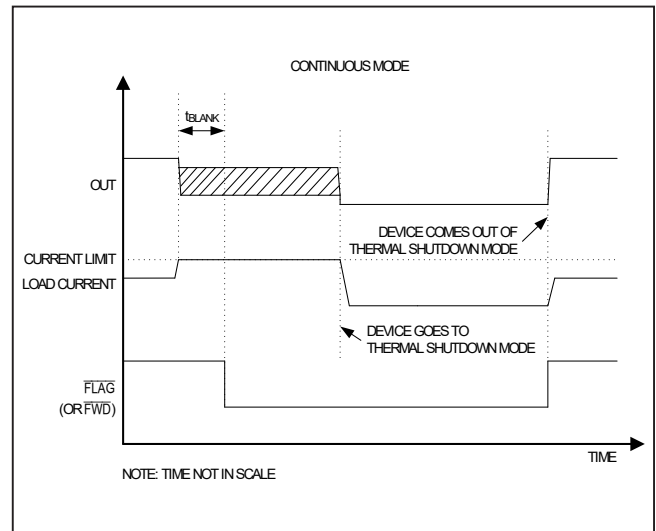
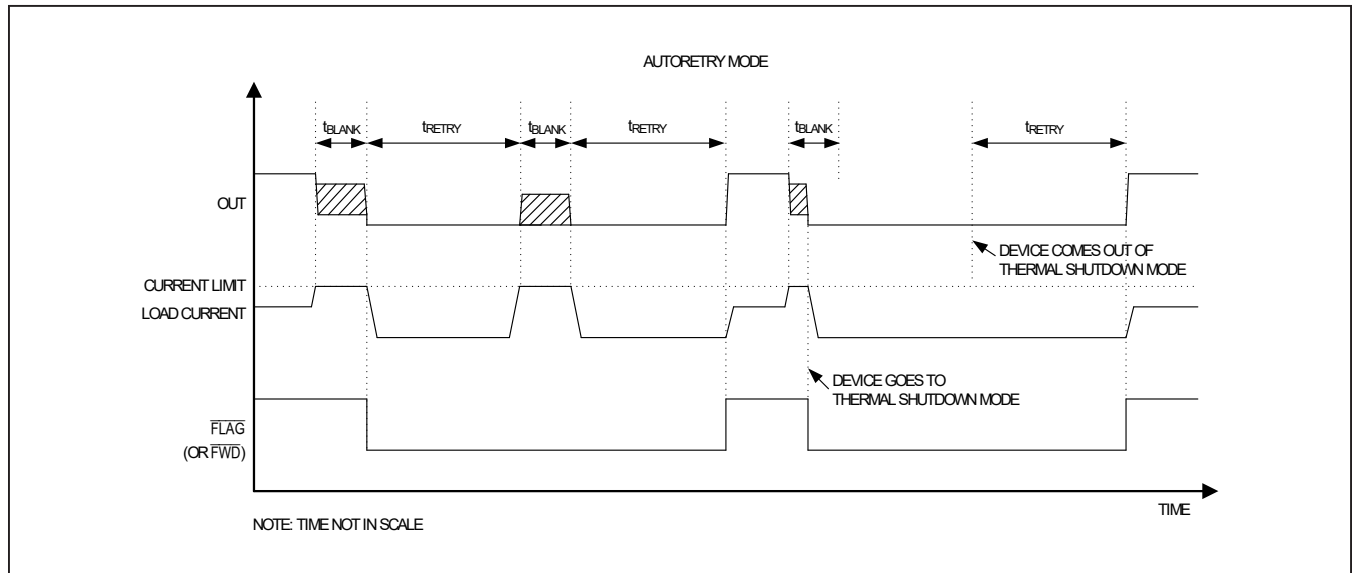
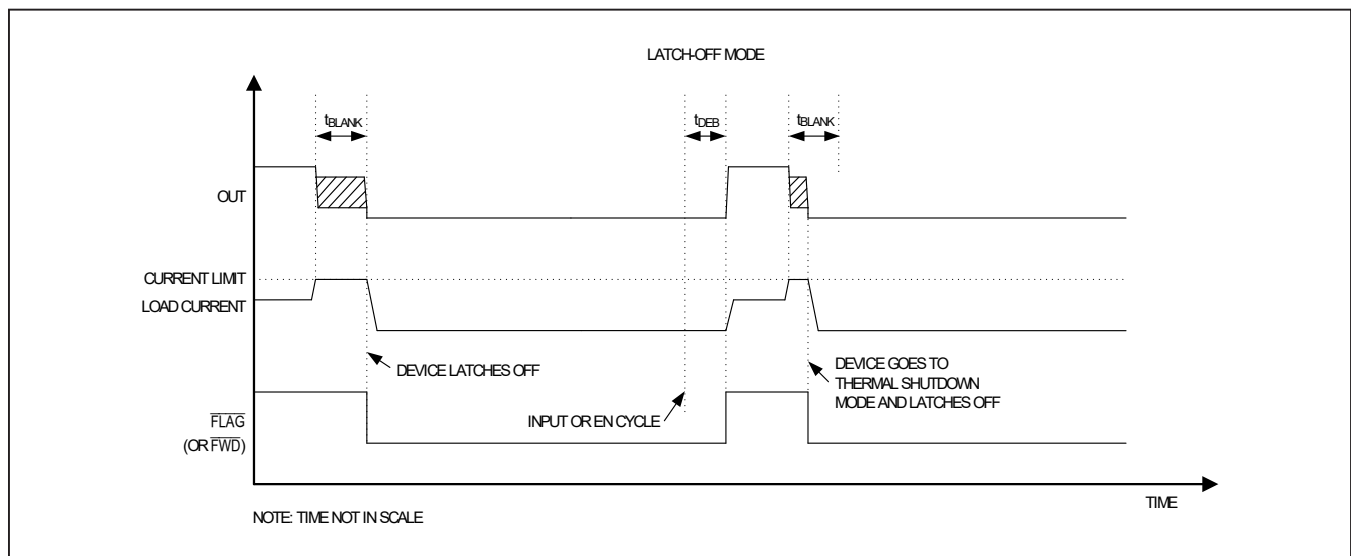

Figure 4. Continuous Fault-Timing Diagram
Figure 3. Autoretry Fault-Timing Diagram
Figure 5. Latch-Off Fault-Timing Diagram
With a 40ms (typ) t_{BLANK} and 600ms (typ) t_{RETRY} , the duty cycle is 6.25%, resulting in a 93.75% power reduction when compared to the switch being on the entire time. Figure 3 depicts typical behavior in the autoretry current-limit mode.
In continuous current-limit mode, when current through the device reaches the current limit threshold, the device limits output current to the programmed current limit. The \overline{FLAG} (or \overline{FWD}) pin asserts if overcurrent condition is present for t_{BLANK} and deasserts when the overload condition is removed. Figure 4 depicts typical behavior in the continuous current-limit mode.
In latch-off current-limit mode, when current through the device reaches the current-limit threshold, the t_{BLANK} timer begins counting. The \overline{FLAG} (or \overline{FWD}) pin asserts if an overcurrent condition is present for t_{BLANK} . The timer resets when the overcurrent condition disappears before t_{BLANK} has elapsed. The switch turns off and stays off if the overcurrent condition continues beyond t_{BLANK} . To reset the switch, either toggle the control logic (EN) or cycle the input voltage. Figure 5 depicts typical behavior in latch-off current-limit mode.
The thermal limit behaves similarly to the current limit. In autoretry mode, the thermal limit works with the autoretry timer. When the junction temperature falls below the falling thermal-shutdown threshold, devices turn on after the retry time. In latch-off mode, the devices latch off until power or EN is cycled. In continuous mode, the devices only disable while the temperature is over the limit. There is no blanking time for thermal protection. Figure 3, Figure 4, and Figure 5 depict typical behavior under different current limit modes.